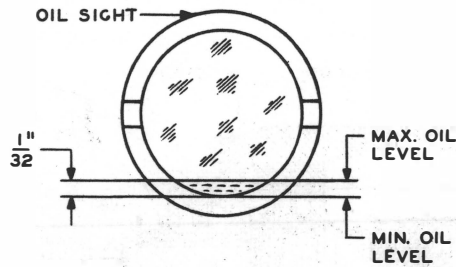

Fig. 5 - Oil Level Limits
(2) No. 6B, 6D, 6F, 6G, and 7D Drives Manufactured With the Center Line of the Oil Sight Glass Coinciding With the Center Line of the Plate Cover: Fig. 5 - With the drive at rest, the oil level shall not be higher than 1/32 inch above the bottom of the oil sight glass, and not lower than the bottom of the oil sight glass.